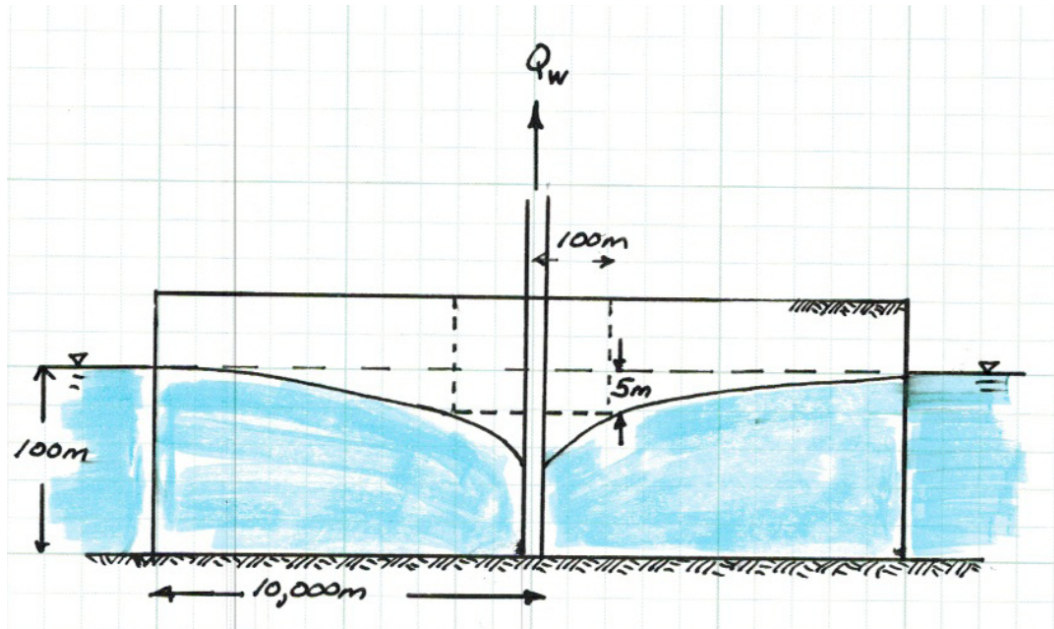

Figure 5: Pumping well in circular, unconfined aquifer.
4. A well in the center of a circular island (an unconfined aquifer) is pumped to dewater a cylindrical portion of the aquifer for constructing a foundation. The desired draw-down 100 meters from the well is 5 meters. The radial distance from the well to the surrounding water 10,000 meters. The head at the edge of the island is 100 meters. Figure 5 is a sketch of the situation. The hydraulic conductivity of the aquifer material is 11 meter/day.